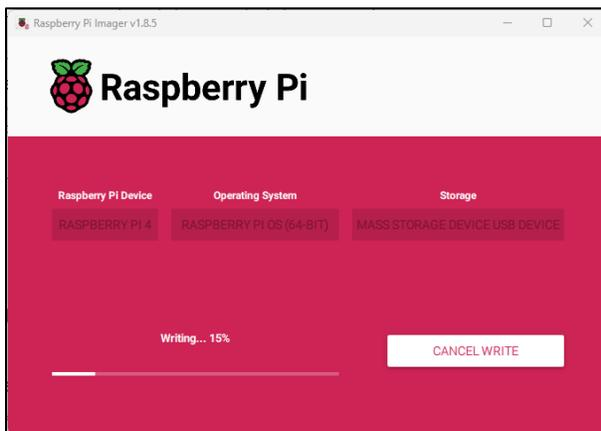

Figure 87 Writing the OS Data to the MicroSD Card
10. The application will write, then verify, the OS files to the MicroSD card as shown in **Figure 87**⁴⁵.